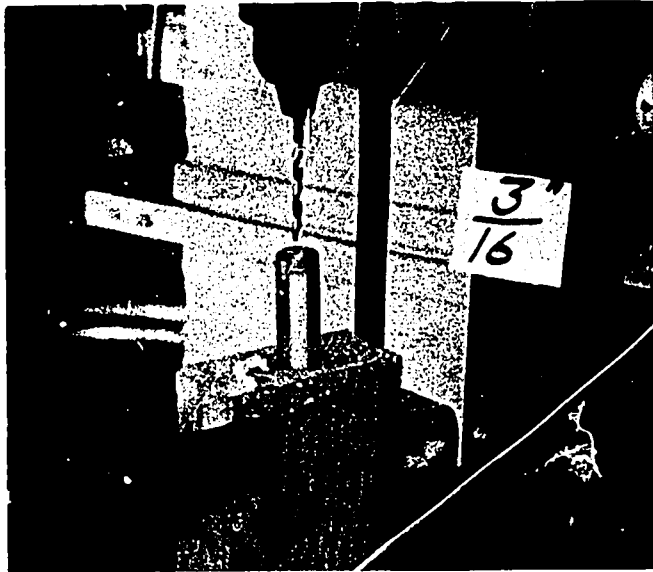

Fig. 58-2. Drilling Handle
2. Using the drilling jig and drill press, drill a $\frac{3}{16}$ " centered hole, $1\frac{1}{2}$ " deep in the sawn end of the screwdriver handle. See Fig. 58-2.